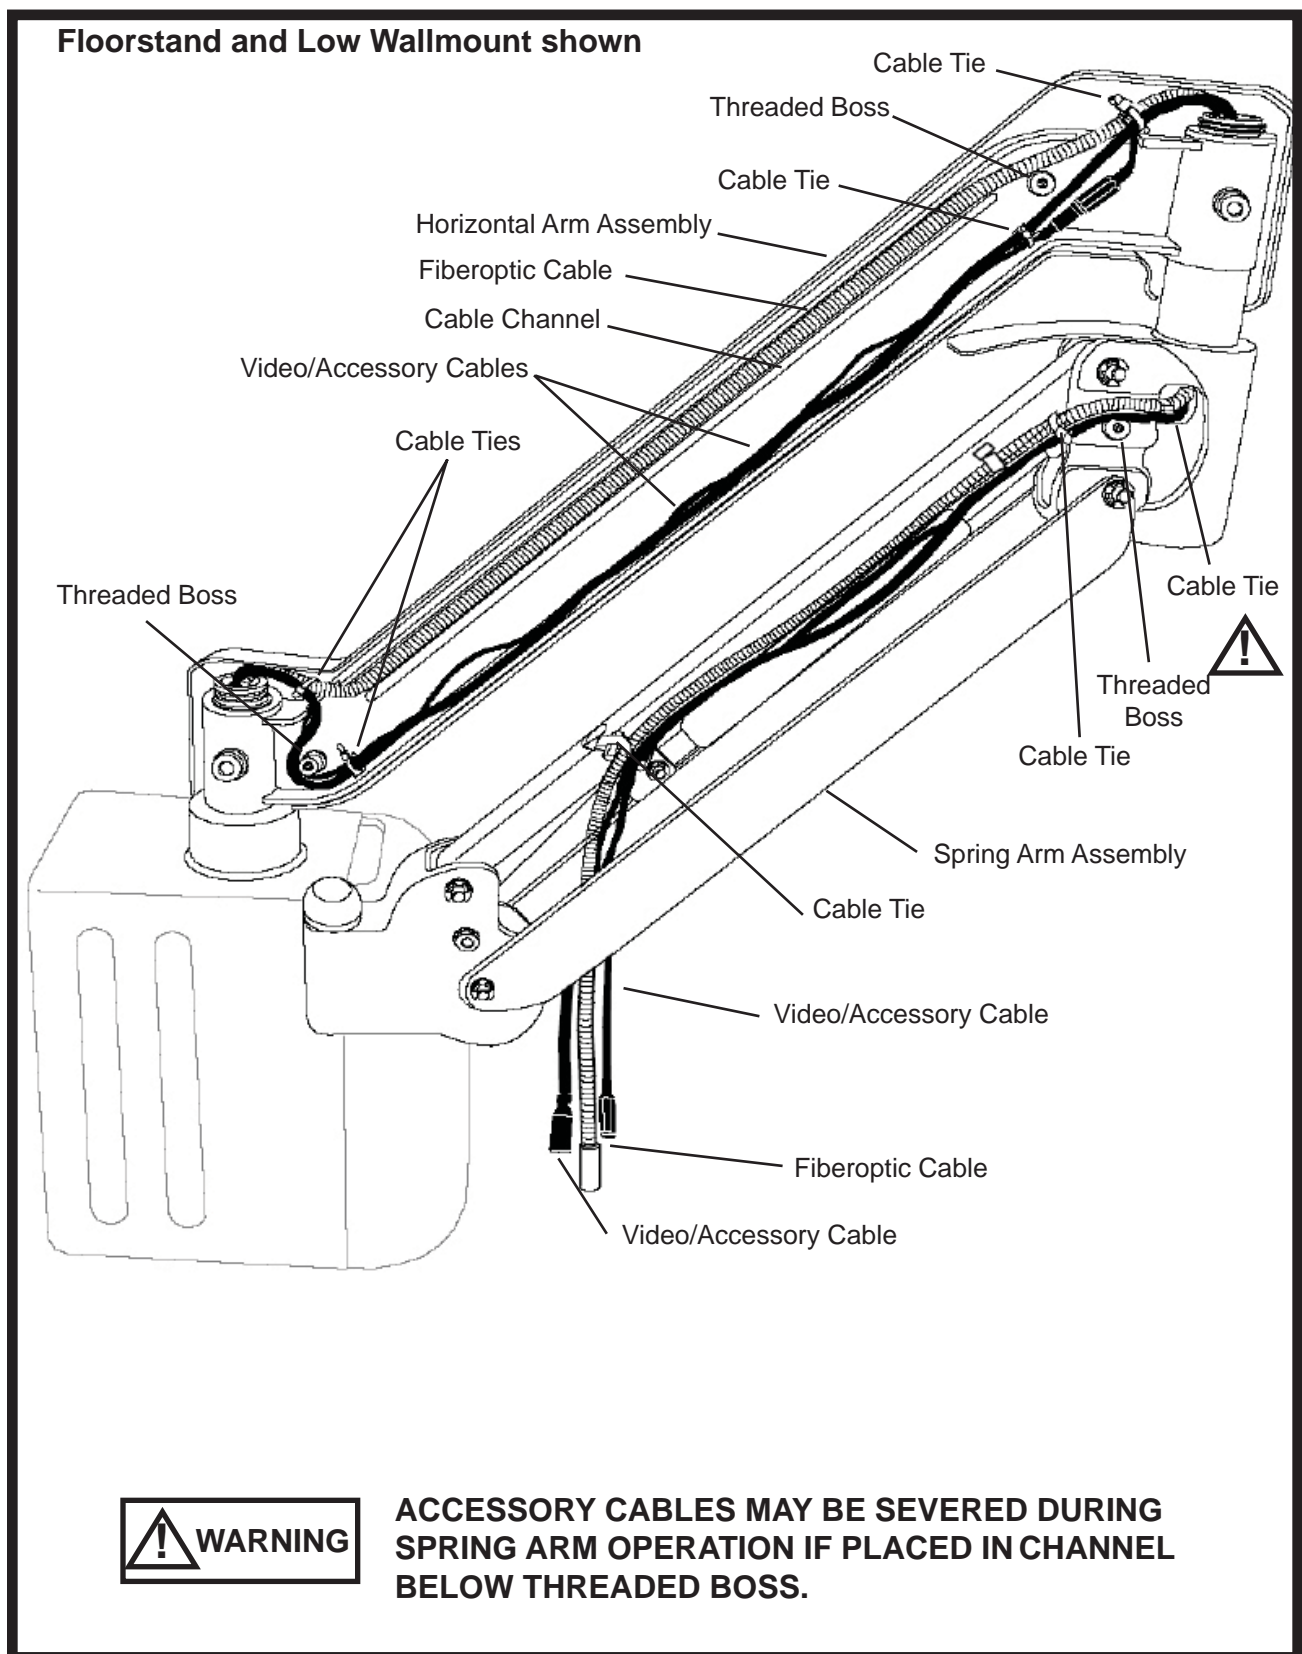

Figure 5-8. Cable Installation in Horizontal and Spring Arm Assemblies
To connect the Fiberoptic Cable from the lightsource to the Microscope Body, refer to Figures 5-8 and 5-9 and proceed as follows:
The Fiberoptic Cable is routed through the inside of the Horizontal Arm and Spring Arm Assemblies. See Figures 5-8 and 5-9.
All video and accessory cables are routed through the inside of the Horizontal Arm and Spring Arm Assemblies. See Figures 5-8 and 5-9. See section titled “**Optional Equipment**” in this book for various component configurations inside the Lightsource Housing.
2. The cables are then wrapped around a threaded boss, to allow sufficient clearance for the covers, and secured with cable ties using the two cable tie holders on the bottom side of the Horizontal Arm. See Figures 5-8 and 5-9.
10. Securely tighten the cable tie nearest the microscope only. The remaining two (2) cable ties must be installed loosely to allow for movement of the accessory cables through the full range of movement for the Spring Arm.